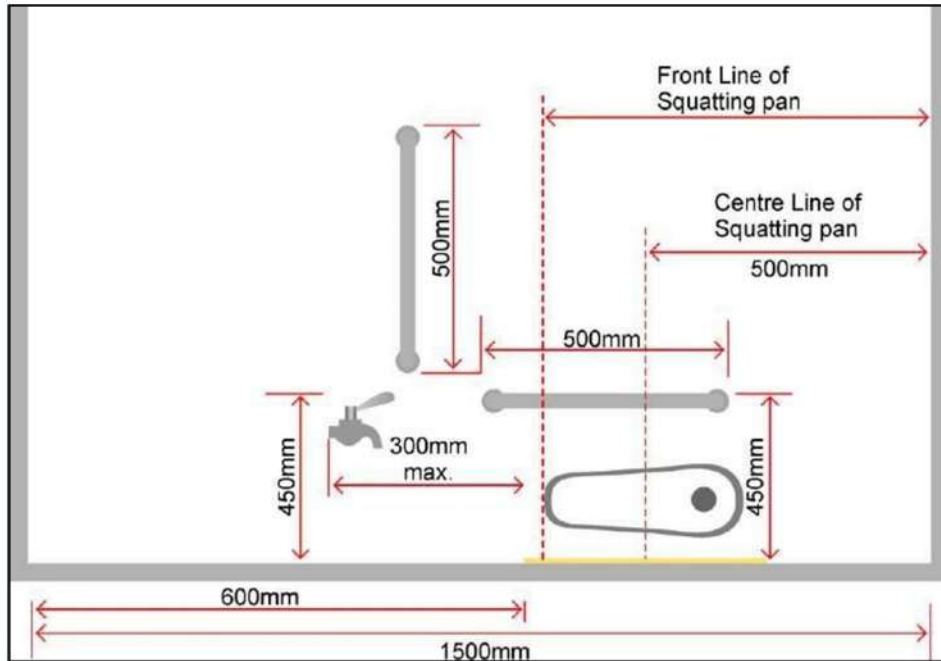

Figure 5.32 Side view of Indian/Squatting Toilet Plan
- Horizontal grab bar should be provided which helps in balancing and stabilizing, when reaching for water/cleaning self (**Figure 5.32**);